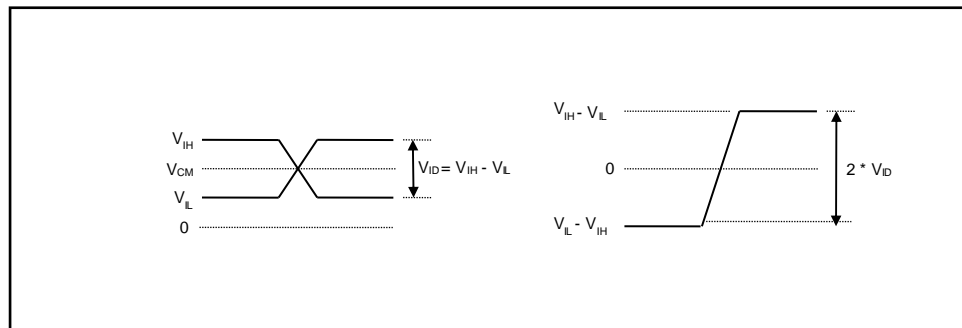

Figure 44. Differential Input Voltage Levels
**Input differential voltage is calculated as $V_{ID} = V_{IH} - V_{L}$ where V_{IH} and V_{L} are input voltage high and low respectively. It should not be confused with $V_{ID} = 2 * (V_{IH} - V_{L})$ used in some datasheets. Please refer to Figure 44.